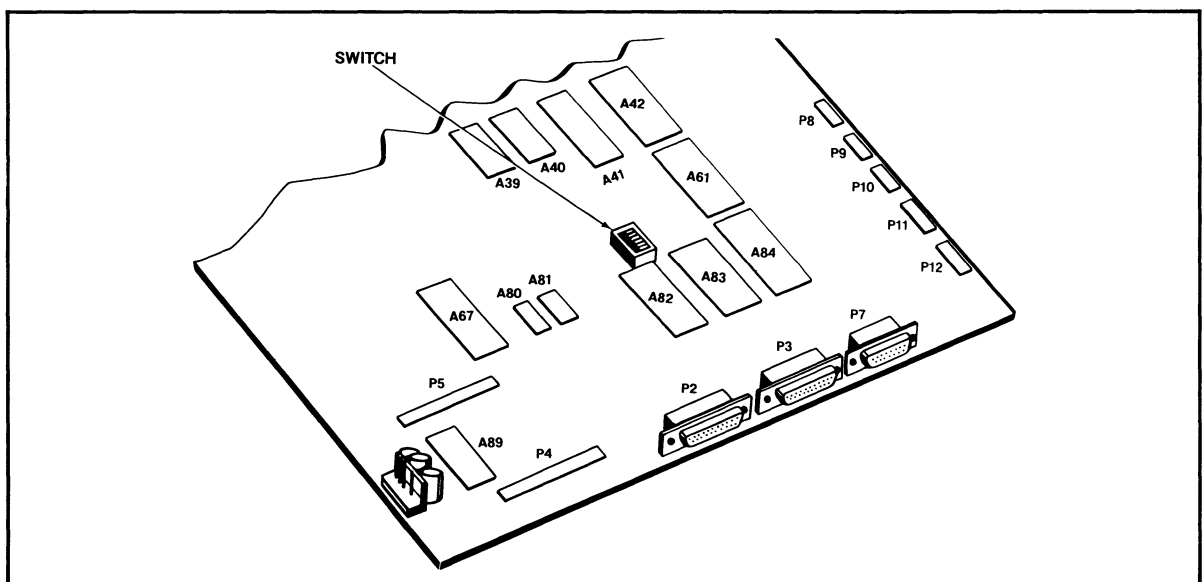

Figure 2-5 Location of Internal Switch 1
2. Locate Switch 1 on the TS 806/20 logic board as shown in Figure 2-5.